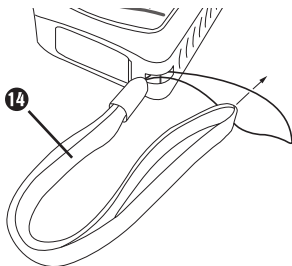

Fig. 1
- ◆ Attach the wrist strap **14** to the hole provided as shown in Figure 1.